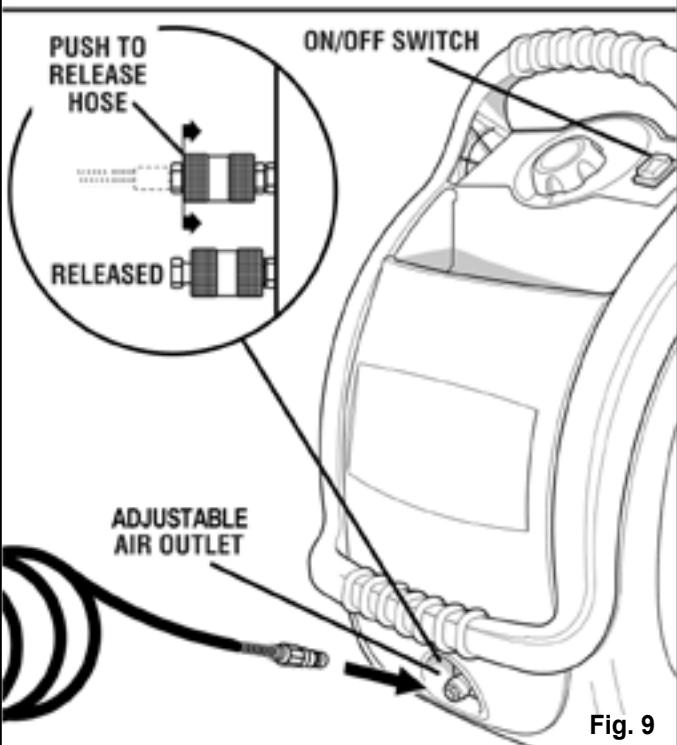

Fig. 9
5) BREAKING IN THE PUMP (See Fig. 9 - 10)
- Turn the air compressor ON (I) and run the air compressor for 10 minutes to break in pump parts.
- Place the switch in the OFF (O) position.
See Figures 9 - 13.